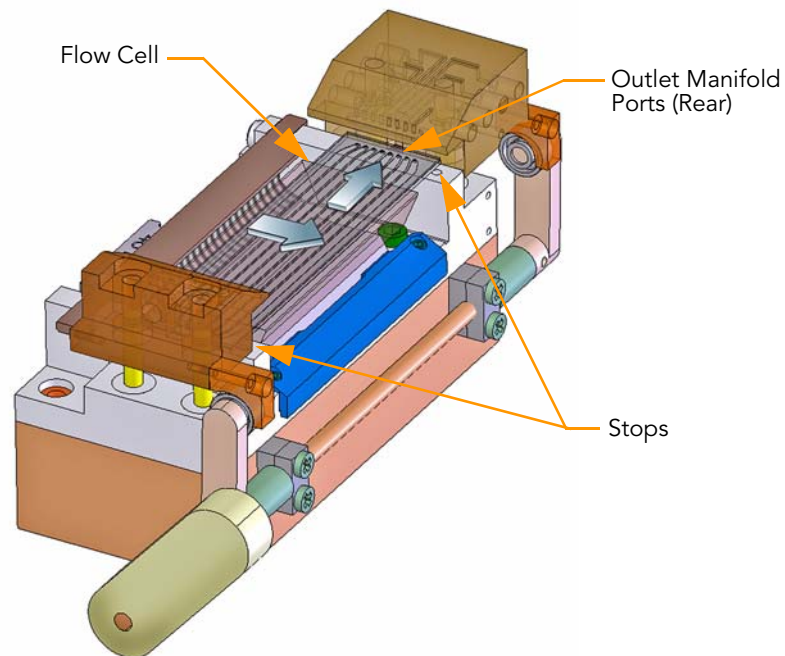

Figure 49 Position the Flow Cell
3. Slide the flow cell toward the rear until you encounter the rear stop (Figure 49).